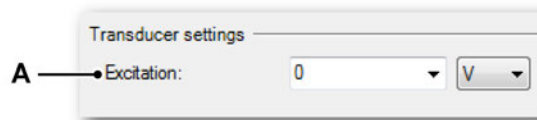

Figure 2.30: Transducer settings/Piezo Charge
- Piezo Charge (see Figure 2.30)
When a Piezo Charge is selected, the following settings are shown (see Figure 2.30).